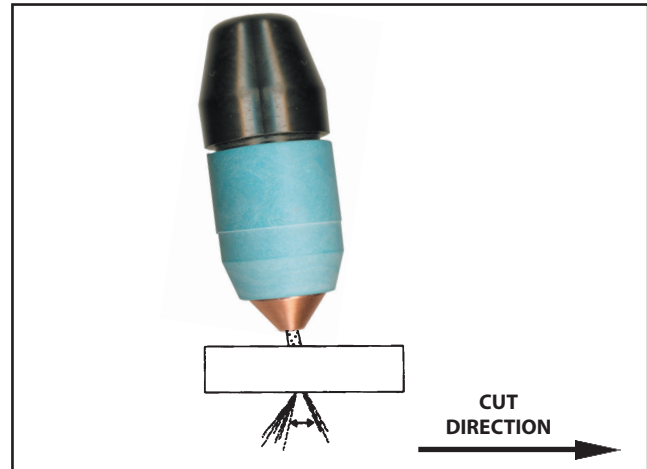

Figure 4-2. Recommended Torch Angle of 5° to 15°
- D. After starting the cut, the torch should be maintained at a 5-15° forward angle (Figure 4-2). This angle is especially useful in helping to create a "drop" cut. When not using the standoff guide, the nozzle should be held approximately 6.4mm (1/4 ") from the work.